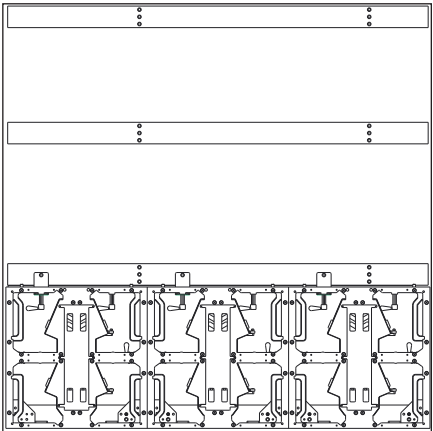

Figure 9: Install Bottom Row of Panels
14. Repeat **Steps 5-13** for each panel in the row, ensuring the machined surfaces are as flush as possible. Refer to **Figure 9**.